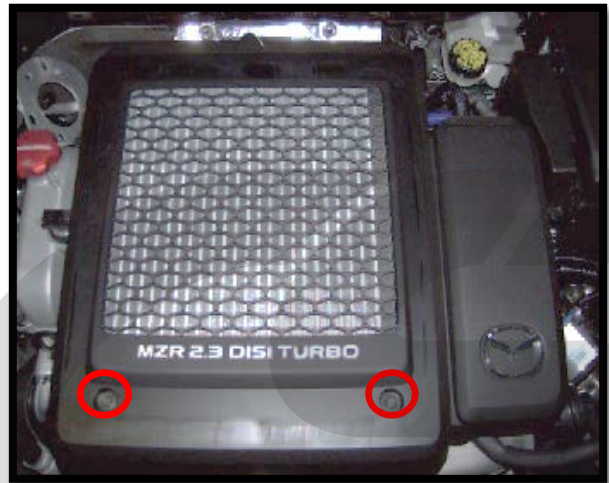

Figure 1a
- a) **Remove the top mount intercooler cover (TMIC)** by removing the two 10mm bolts (red circles in Figure 1a).